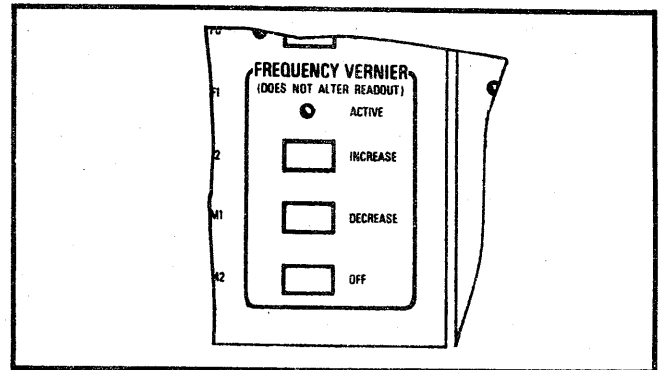

Figure 3-12. FREQUENCY VERNIER Controls
- c. FREQUENCY VERNIER Pushbuttons (Figure 3-12). These pushbuttons may be used to make fine adjustments to (1) output frequency in the selected CW mode or (2) center frequency in the selected ΔF mode. The frequency resolution achievable using these pushbuttons is ± 100 kHz for all models except the 6642A, 6653A, and 6659A. For these three models, resolution is ± 200 kHz. Individual pushbuttons are described below.